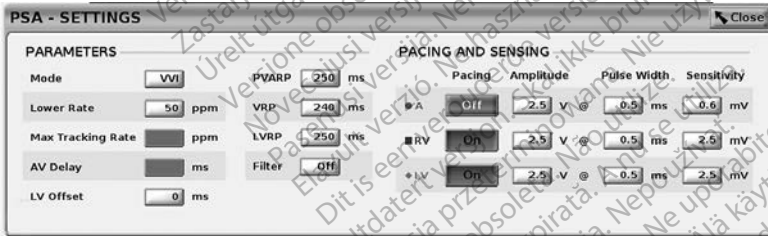

Figure 10. PSA Settings panel
4. Use the PSA Settings button (callout [8] in Figure 6 on page 17) to open the PSA Settings panel (Figure 10 on page 19). Then, select/confirm the desired parameters for the PSA settings. Select the Close button to close the panel and continue the session.